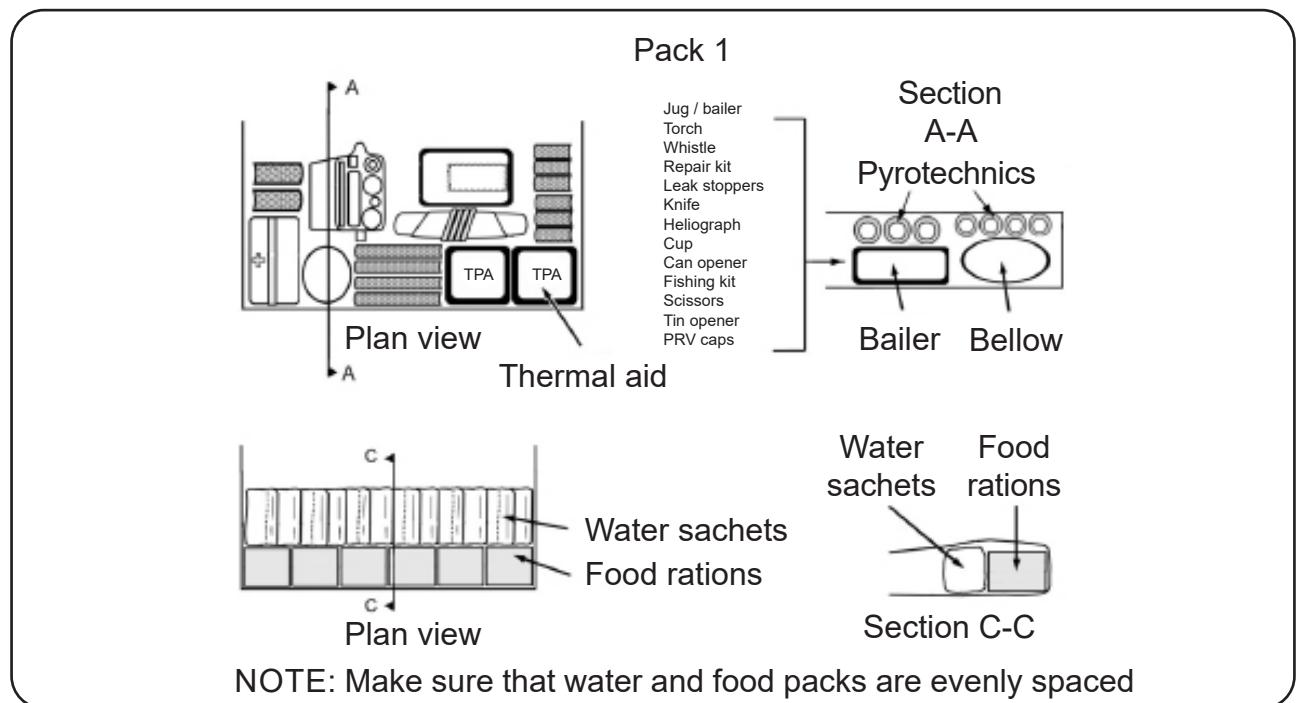

FIGURE 709
(b) If packing for a 10 or 12 Person refer to FIGURE 709.
3.3.2 Place the items into the valise as shown in FIGURE 709.
3.3.3 Pack 1, the plan view and section view AA, shows the position and layout of the equipment. Refer to FIGURE 709.